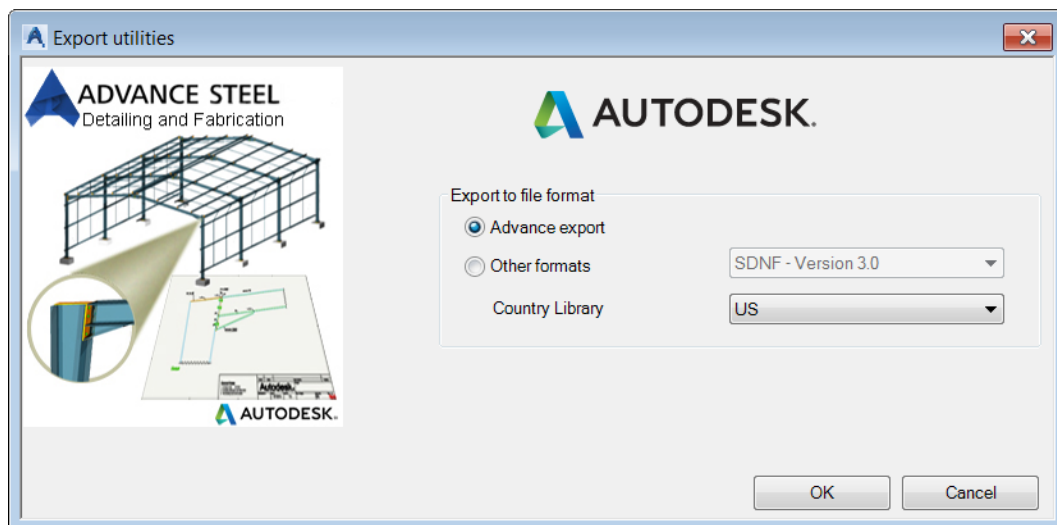

FIGURE 7: THE **EXPORT UTILITIES** DIALOG BOX
5. From the **Add-Ins** tab > **Advance Steel Extension** flyout, click **Export**; the **Export utilities** dialog box is displayed, as shown in Figure 7.